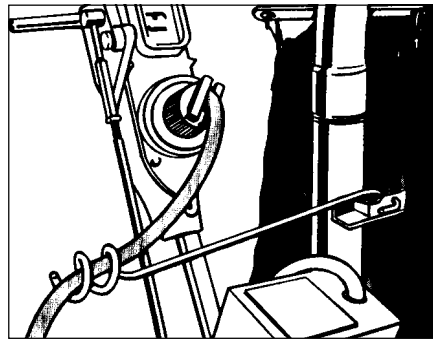

Figure 6
4. Wind the power cord through the cable arm. See figure 6. Keep the power cord out of path of equipment.